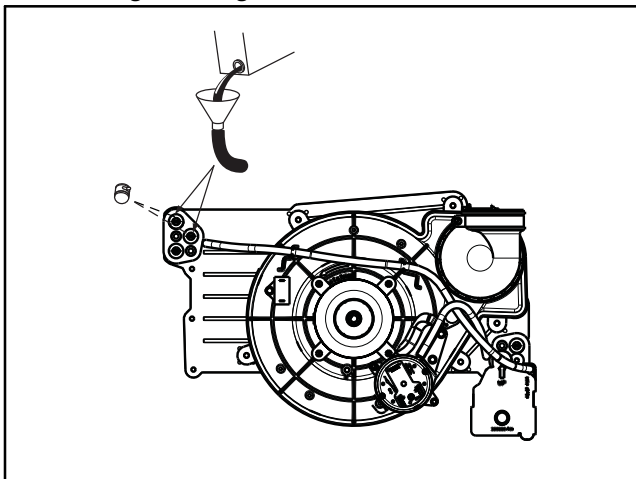

Figure 10 - Priming Condensate Trap
4. Remove the top unused rubber plug from the port on the collector box opposite the condensate trap. See Figure 10.
9. Remove the middle unused rubber plug from the port on the collector box opposite the condensate trap. See Figure 10.